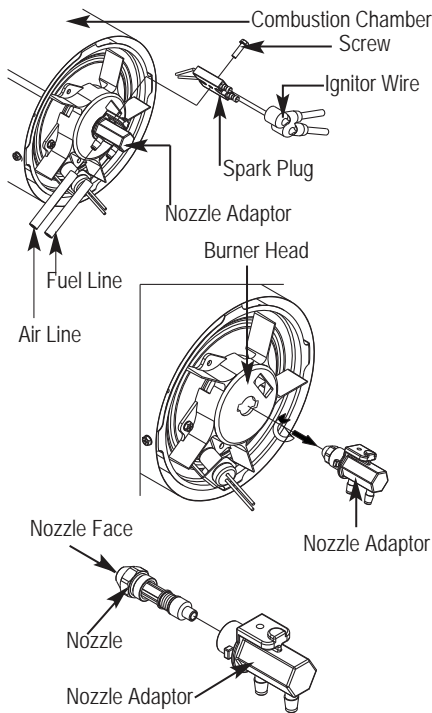

Figure 13 – Nozzle Replacement For Models CP045CK-CP175DK
- Turn nozzle adaptor 1/9 turn (40°) to counter clock wise and pull toward motor to remove. (See Figure 13)